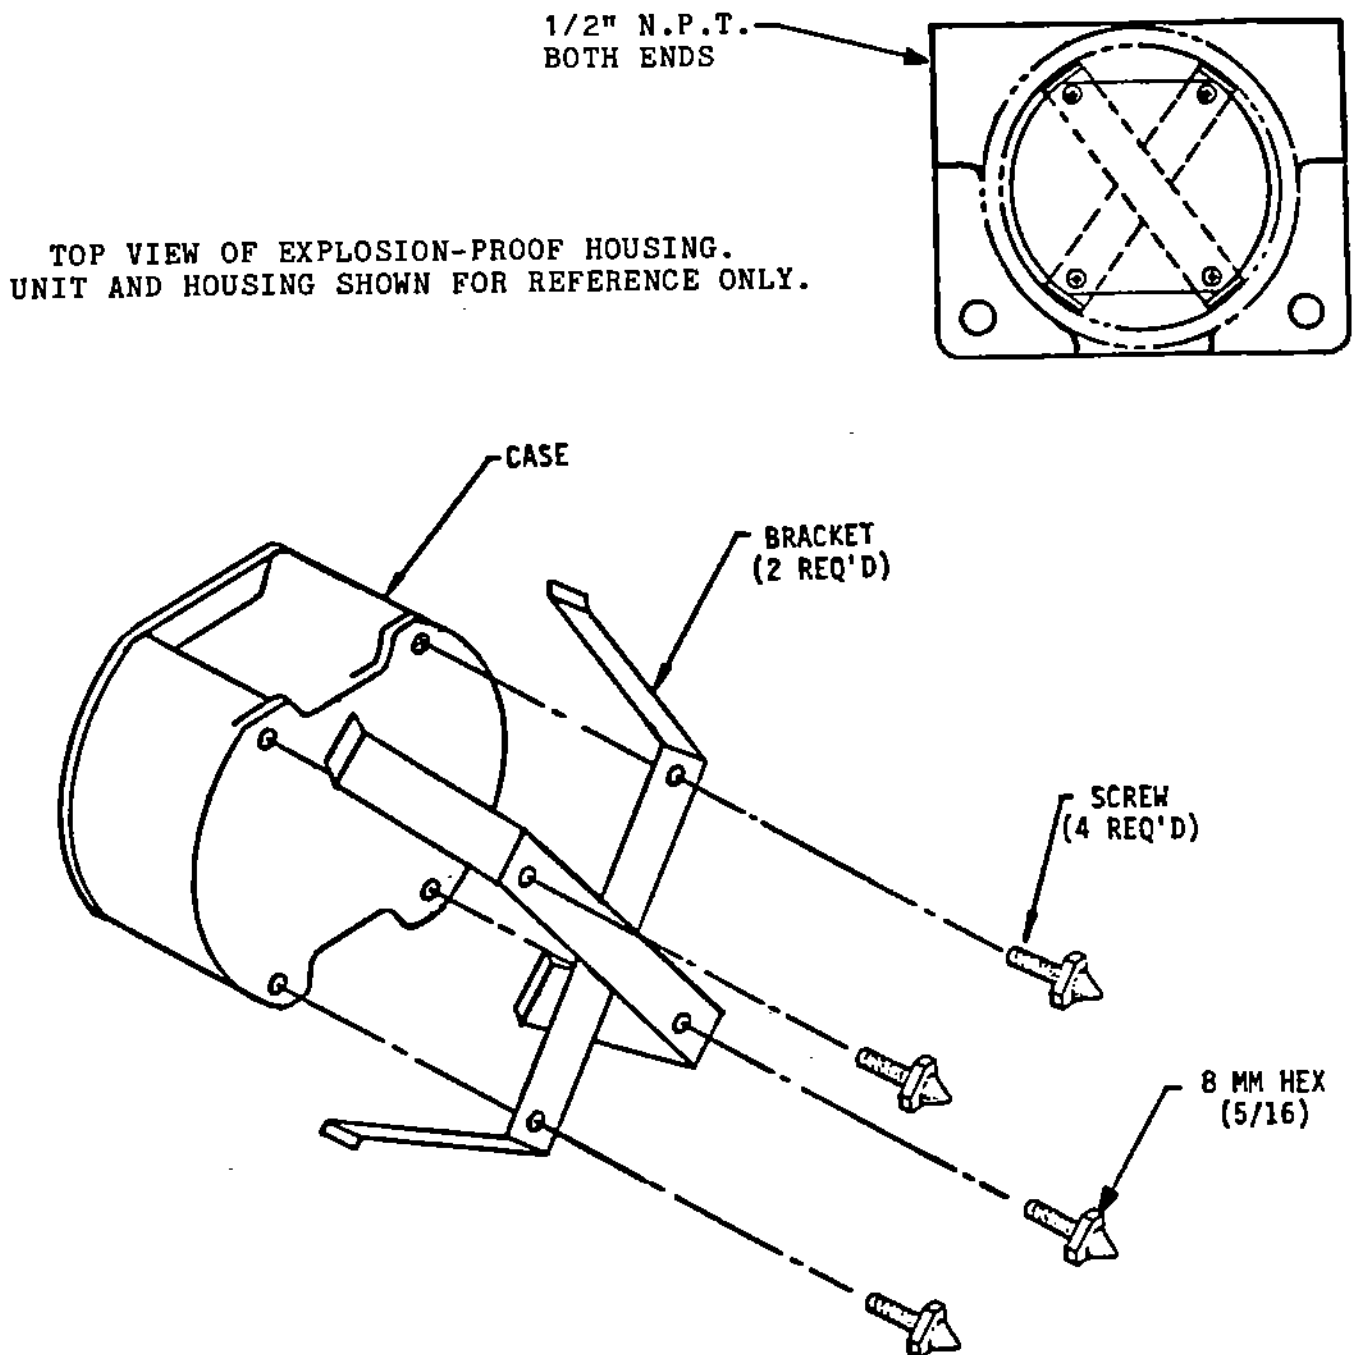

Figure 3-4 Spring Retainer for Explosion-Proof Housing
- c. Spring retainers for external 76.4 to 88.9 mm (3 to 3.5 in) explosion-proof housing mount (see Figure 3-4).